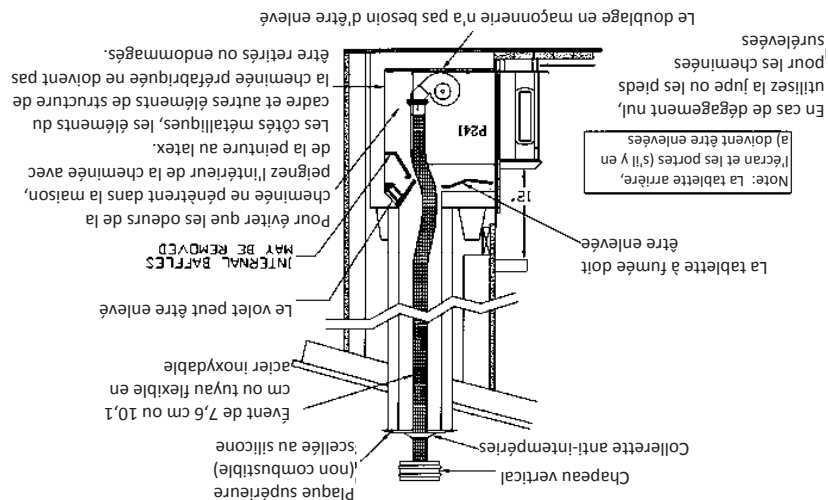

FIGURE 18
E. INSTALLATION DANS UNE CHEMINÉE PRÉFABRIQUÉE en METAL (cf figure 18)